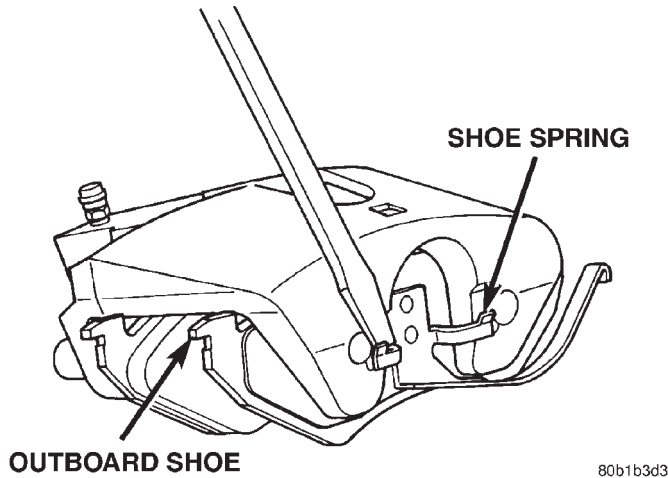

Fig. 21 Outboard Brake Shoe
- (8) Remove outboard brake shoe (Fig. 21). Pry one end of shoe retainer spring away from caliper. Then tilt shoe upward and rotate it out of caliper.